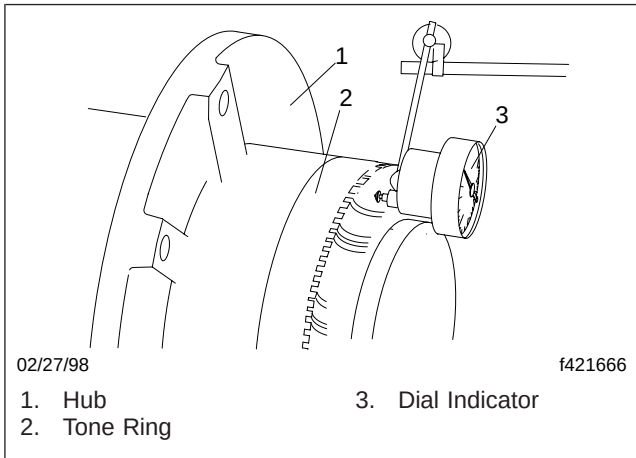

Fig. 3, Positioning the Dial Indicator
4. Install the hub on the axle. Place a dial indicator with a magnetic base so the dial indicator is against the tone-ring teeth. See Fig. 3.